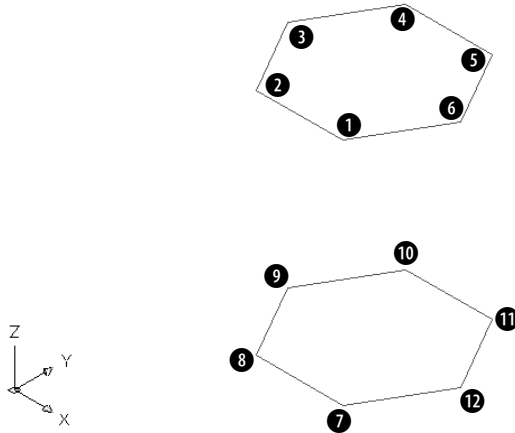

**Figure 23-8:** The two hexagons are the basis for a night table.
2. Save it as ab23-02.dwg in your AutoCAD Bible folder. Two hexagons have been drawn, one 24 inches above the other, on the Const layer, as shown in Figure 23-8.
Specify location for vertex 1: Pick ❶ in Figure 23-8.